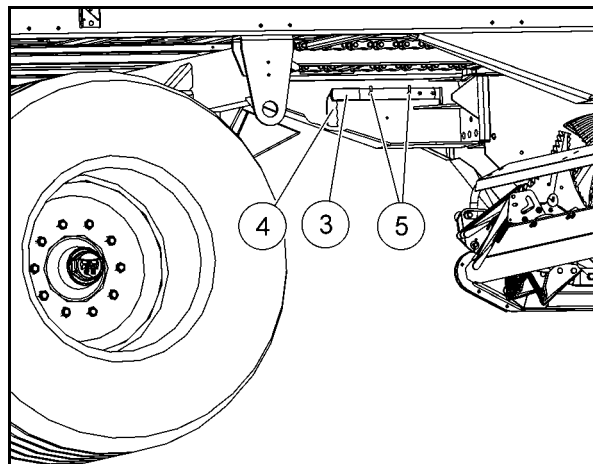

Fig. 123
5. Refix the mounting lever and the knife lever (2) in the holder (Fig. 123/4).
6. Fold the cover plate (7) up again.
7. Lock the cover plate (7) by means of the bolt (8) in the oblong hole (9).